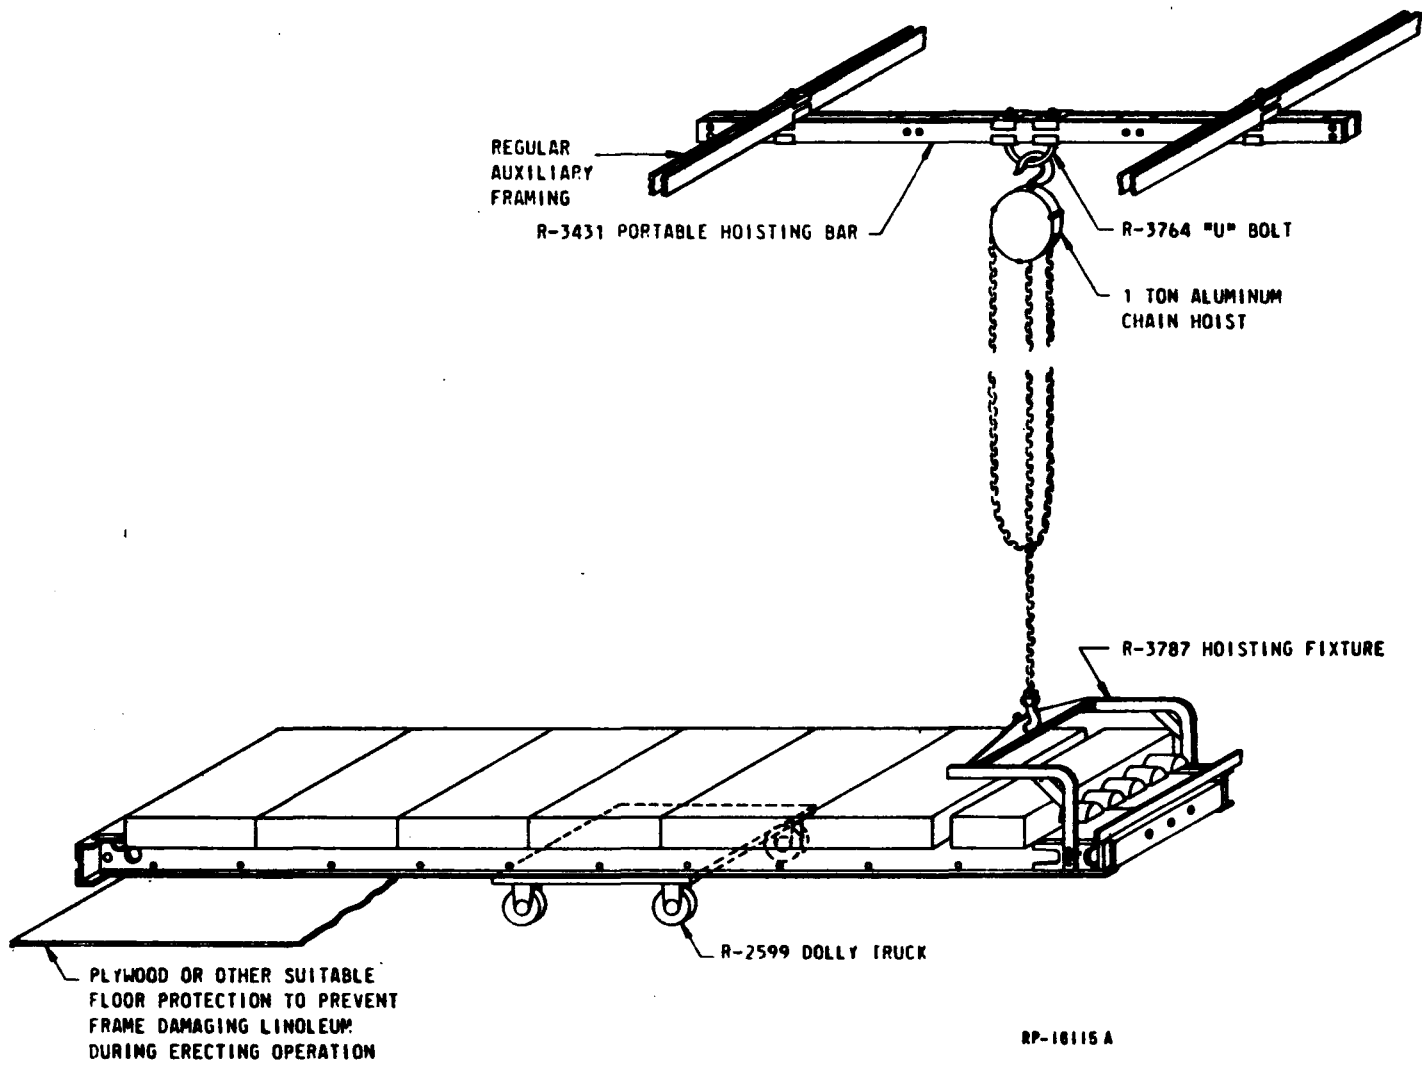

FIG. 1 TYPICAL SHOP EQUIPPED BAY IN POSITION FOR ERECTING (PARS. 4.2, 4.3)
4.23 After the portable hoisting bar has been installed, attach the R-3764 "U" bolt and hoist as shown in Figure 1. The "U" bolt should be in its highest possible position.